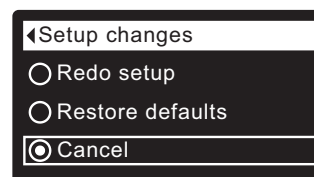

FIG. 97
7. Press the SELECT (O) button to display the Setup changes menu (See Figure 97).
8. If the desired option already has a dot next to it (See Figure 97), go to Step 9. Otherwise, press the DOWN (▼) or UP (▲) buttons to scroll to the desired option, then press SELECT (O) to choose it.